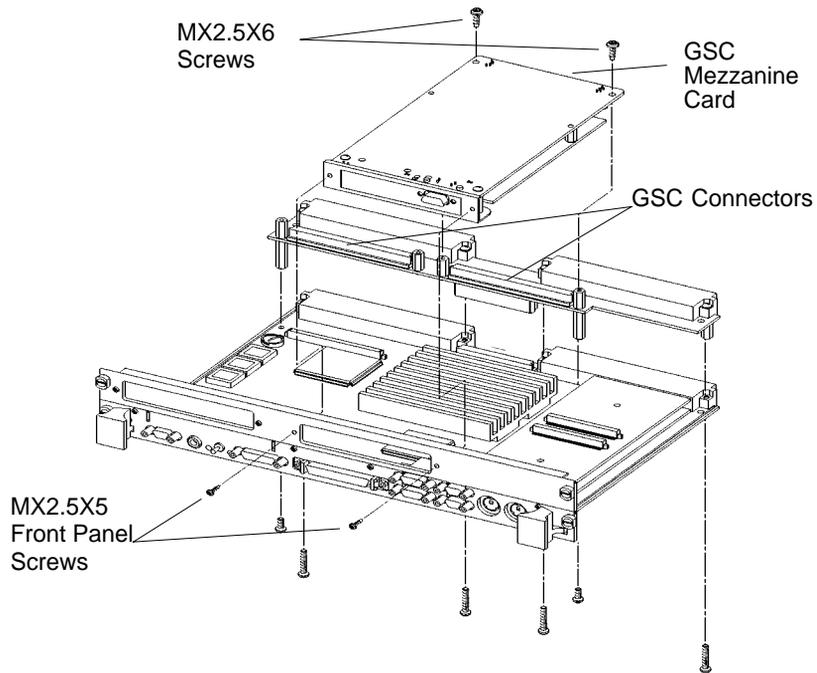

Figure 2-4 Installing a GSC Mezzanine Card (Exploded View with Adapter)
- 1** Working from the back of the Model 744 Board Computer, you can install GSC graphics cards into either the right-hand or center position, shown in Figure 2-4.
- 2** Using Figure 2-4 as a guide, position a card and line up its connector over the GSC connector on the board computer.